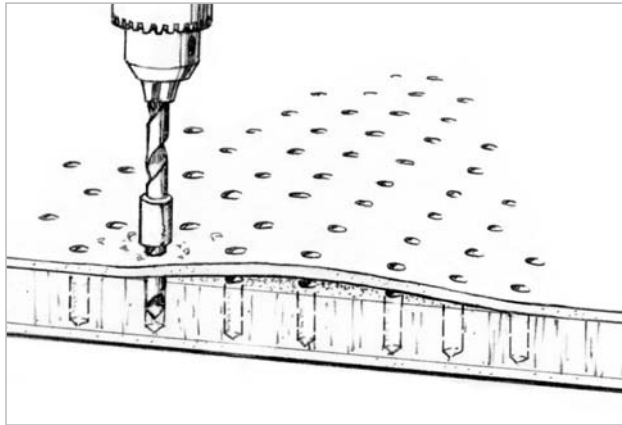

Figure 5-2 Drill a pattern of holes, 1" apart over the area of delamination, to allow the core material to dry out.
1. Drill $\frac{3}{16}$ "– $\frac{7}{32}$ " (5mm)-diameter holes at 1" (2.5cm) intervals, creating a pegboard-like pattern that extends several inches beyond the delaminated area (*Figure 5-2*). The holes should penetrate the fiberglass skin and the core without drilling into the opposite skin. Use a drill depth control device to prevent drilling entirely through the panel.